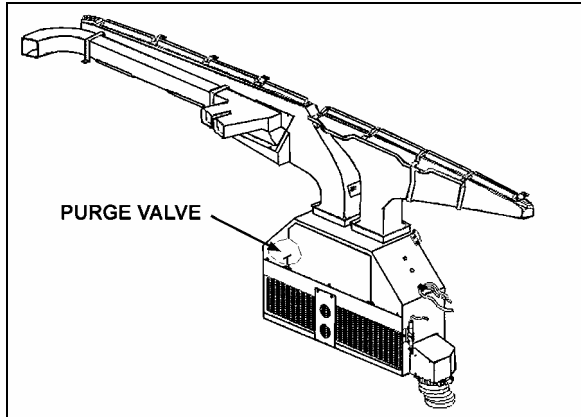
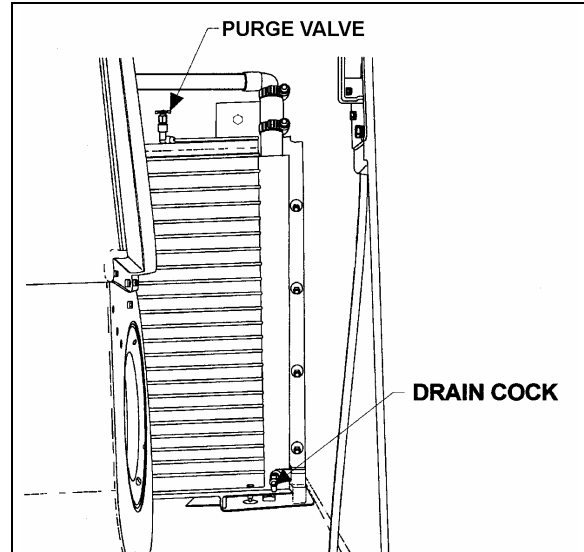

FIGURE 32: DRIVER'S HVAC UNIT 22171PV
FIGURE 34: INSIDE EVAPORATOR COMPARTMENT 22229
4. From inside of vehicle, remove the grill and the access panels. Open the purge valve located inside the HVAC unit on the driver's side (Figure 32) to ensure an efficient draining.
4. Open drain cock in bottom of heater core, then open purge valve located on top of heater core (Figure 34) in order to allow air to enter while draining.
Whenever the heating system has been drained and refilled, or the system has run low on coolant and coolant has been added, it is necessary to bleed air from heating system. Locate the purge valve illustrated in Figure 32 and Figure 34, and open them momentarily until no air escapes from the lines.